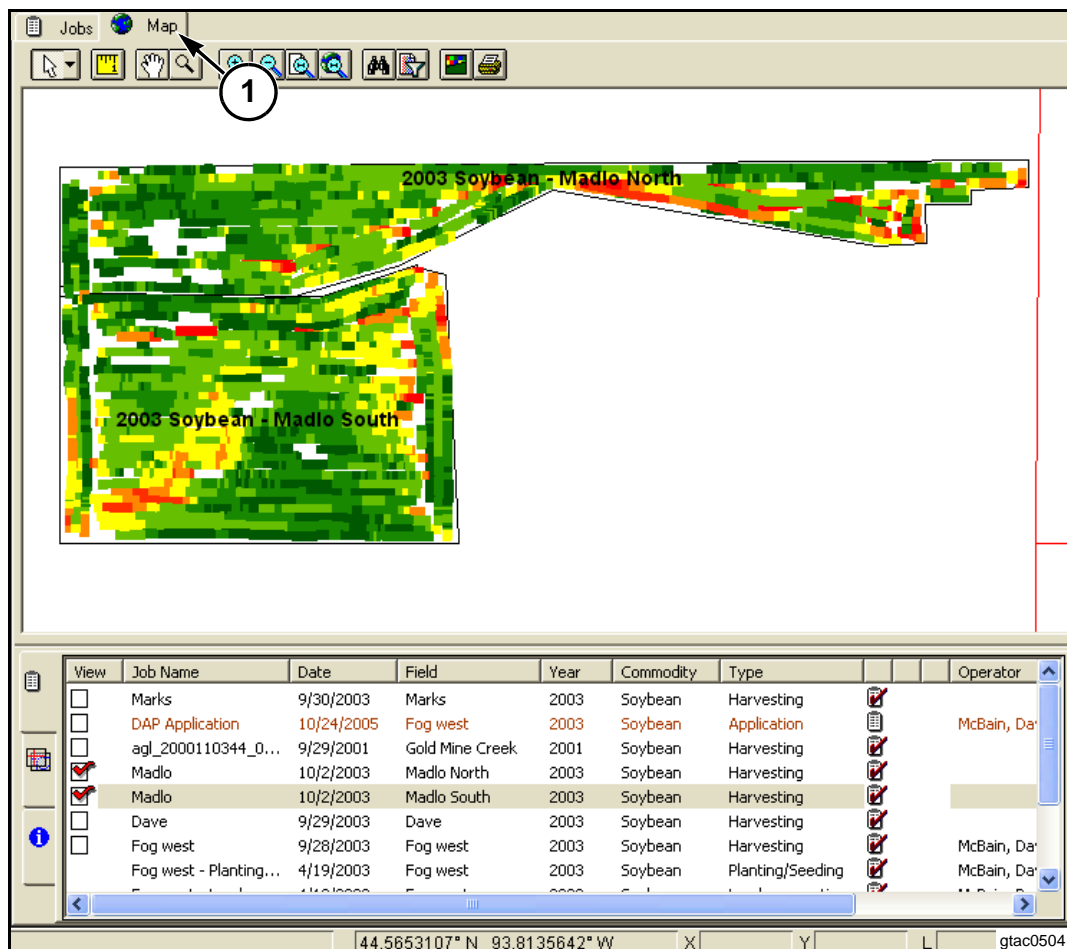

FIG. 6
FIG. 6: The **Jobs** tab continues to list both planned and completed jobs. One additional feature that has been added is the ability to check multiple jobs. A user can check multiple jobs to allow the jobs to be seen collectively on the **Map** tab (1).